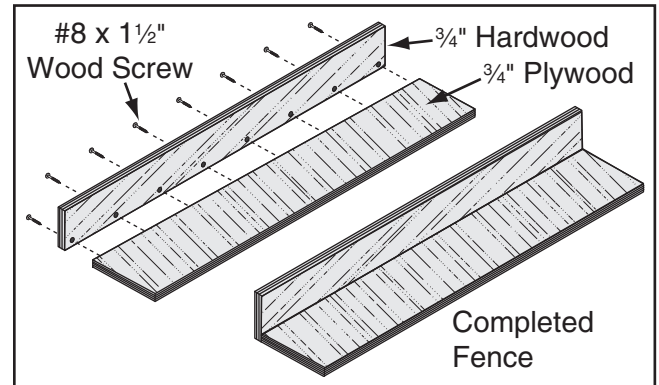

Figure 103. Location of pilot holes.
2. Pre-drill and countersink eight pilot holes $\frac{3}{8}$ " from the bottom of the 3" wide board, then secure the boards together with eight #8 x 1 $\frac{1}{4}$ " wood screws, as shown in **Figure 103**.